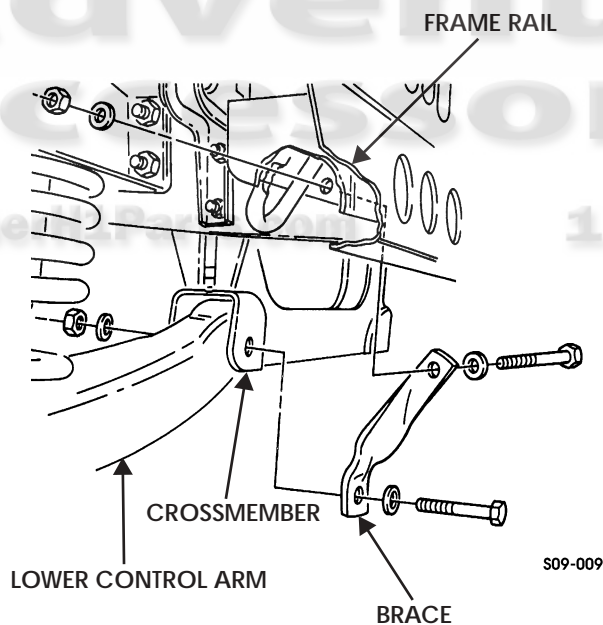

Figure 9-21: Front Suspension Brace for Vehicles Without Winch
1. Remove locknut, washer, capscrew, and washer securing brace to frame rail. Discard locknut (Figure 9-21).
1. Install brace on crossmember and lower control arm with washer, capscrew, washer, and locknut. Do not tighten locknuts (Figure 9-21).